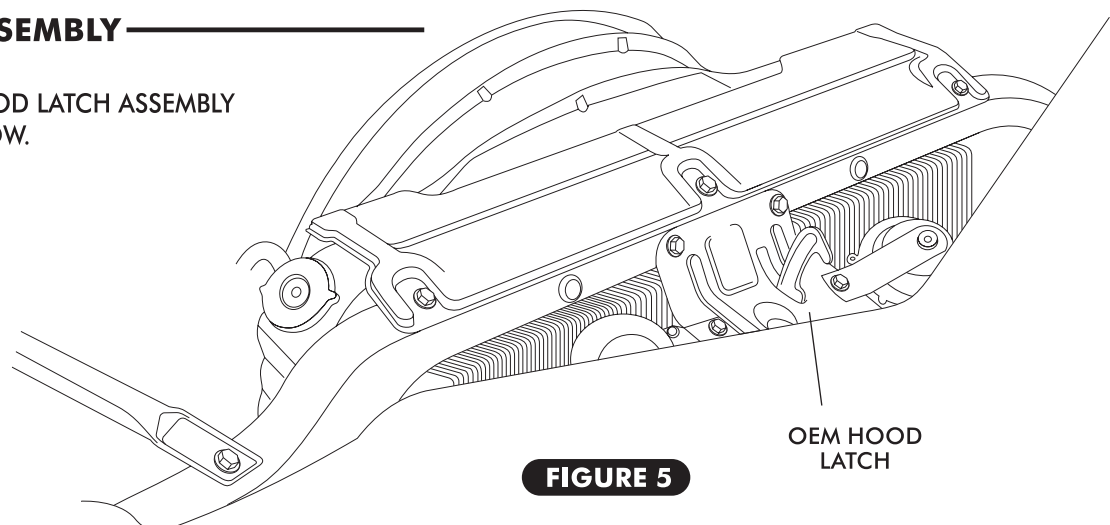

FIGURE 5
- ☐ REMOVE OEM HOOD LATCH ASSEMBLY SEE FIGURE 5 BELOW.